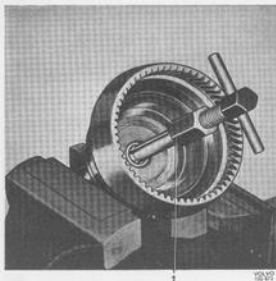

Fig. 4-59. Removing bush, output shaft
4. Remove the circlip and the oil thrower, which hold the uni-directional clutch on the output shaft. Lift out the uni-directional clutch components. Remove the thrust washer. If necessary pull the bush on the output shaft with puller 2423, see Fig. 4-59.